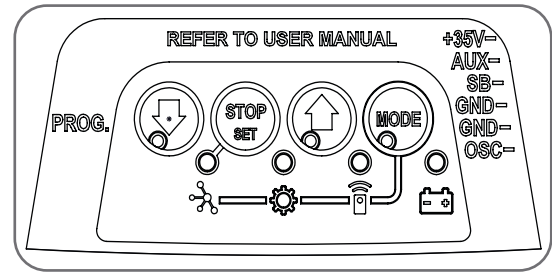

Fig.6.4.1
a. Switch power on and the BLUE LED on the CLOSE button  will start to flash and the GEAR  LED is lit to indicate that the opener is ready to set the Close travel limit (**Fig 6.4.1**).